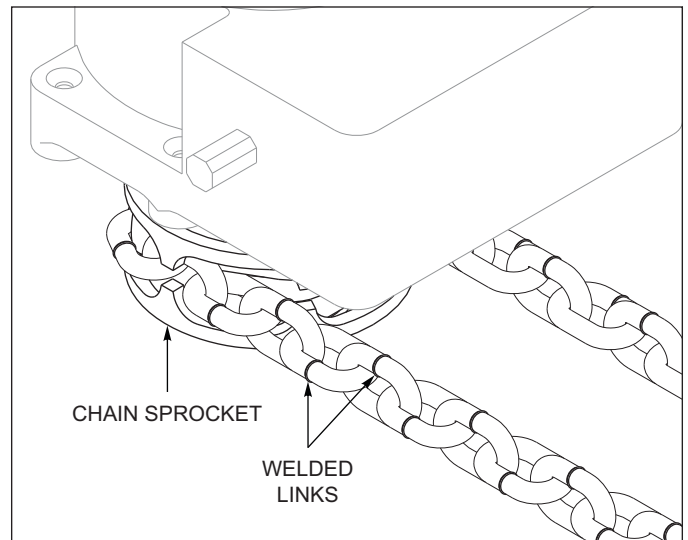

Figure 4-4: Gearbox Chain Sprocket
7. Inspect the chain is seated properly in the chain drive sprocket on the gearbox, with horizontal welded links facing out and the vertical welded links facing up. **See Figure 4-4.**
12. Inspect the chain tension and seated properly in the chain drive sprocket on the gearbox. Repeat steps 5-10 until chain tightness is achieved, **See Figure 4-4.**
8. Remove the drive chain from the gearbox chain sprocket, *See Figure 4-4*.
1. Install the drive chain onto the gearbox chain sprocket, with horizontal welded links facing out and the vertical welded links facing up. Leave excess chain exposed to allow for chain assembly, *See Figure 4-4.*